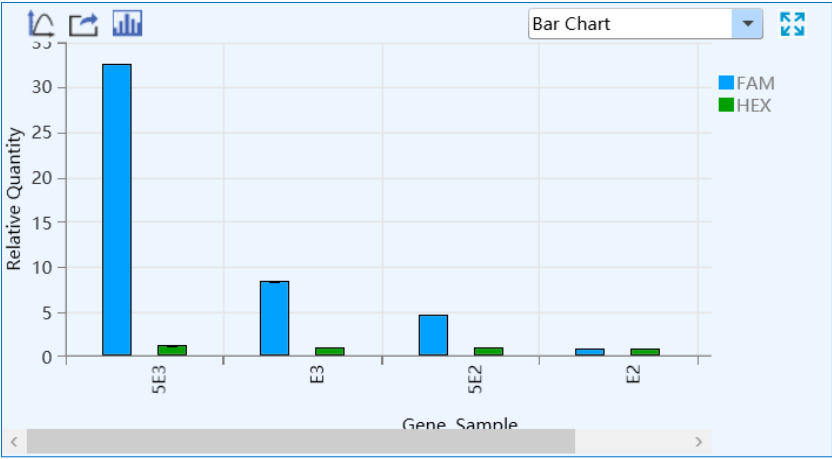

Figure D-11.1. Rel Quant Analysis Interface - Bar Chart Function Module
- I. Bar Chart:** display the relative ratio relationship between target gene & sample and reference gene & sample, as shown in figure D-11.1.